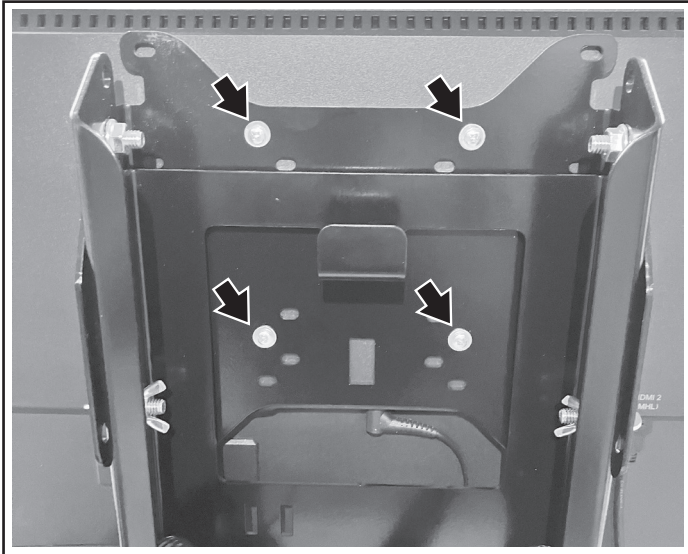

Figure 7
- ¼-20 x 1/2 in. Socket Head Cap Screws (4)
- ¼-20 in. Flat Washers (4)
- Install the monitor to the monitor bracket using four M4 x 10 pan head screws and M4 flat washers (Figure 7).